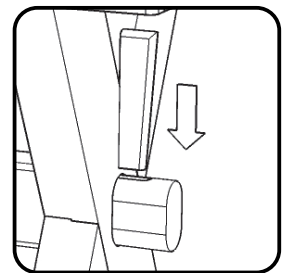

Figure 3
Insert Pegs (D) into holes in stretcher until snug. (See Figure 3)